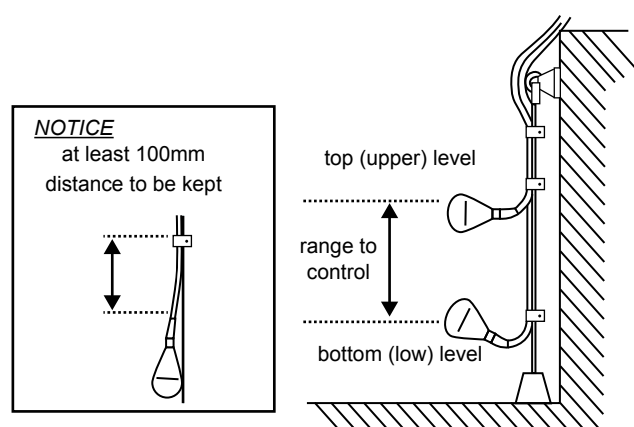

Figure 15. Float Switches
3. Set the top (drain) and bottom (stop) water levels you expect to control with the float switches (Figure 15).
- Set the top (drain) and bottom (stop) water levels you expect to control with the float switches (Figure 15).